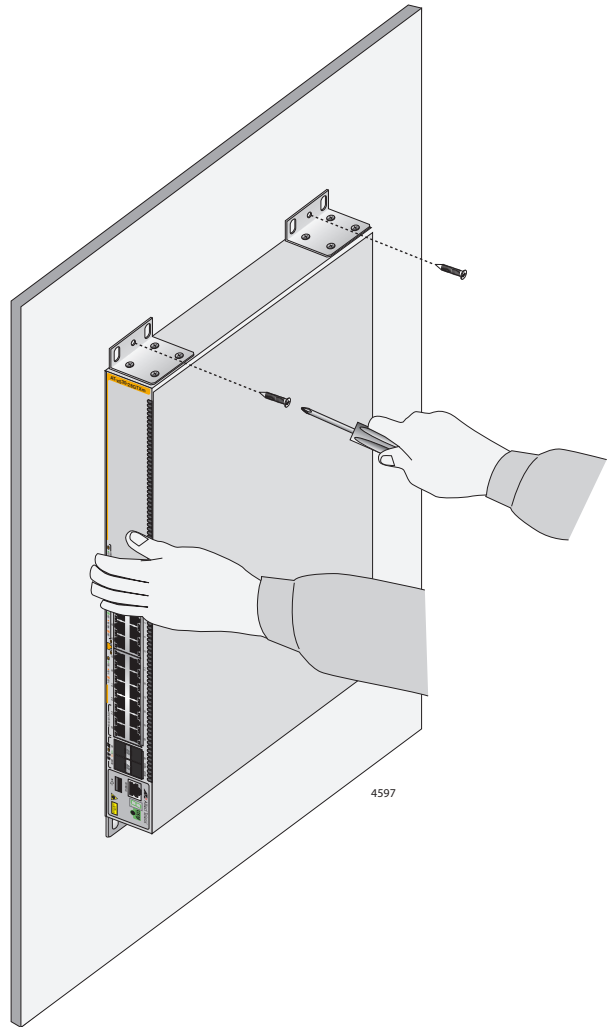

Figure 29. Installing the Switch on a Concrete Wall
7. Have another person hold the switch at the selected wall location while you secure it to the wall with the M4x32mm screws provided. Refer to Figure 29.